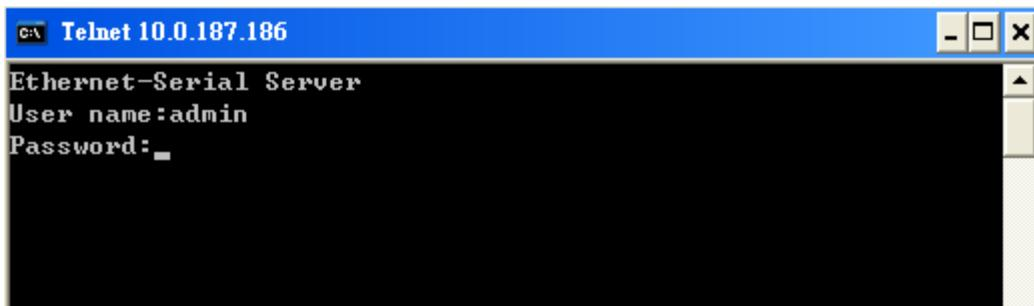

Figure 3.1 Login to the system
->Telnet to SE5001A using command "**telnet IP_address**". (For example : "**telnet 10.0.50.100**" in MS-DOS command prompt window). After telnet into SE5001A, system will prompt for a password, the default password is blank. (Figure 3.1)